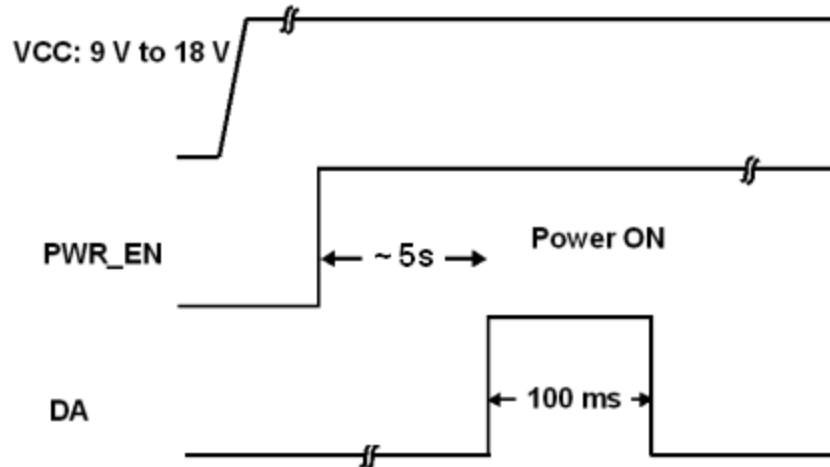

Figure 4: Timing Diagram for Powering Up
After the DA pin's initial toggle, its subsequent active high state indicates messages from the satellite that are available in the Digi m10's inbound (IB) queue. The Digi m10's timing diagram for powering up is shown in Figure 4.